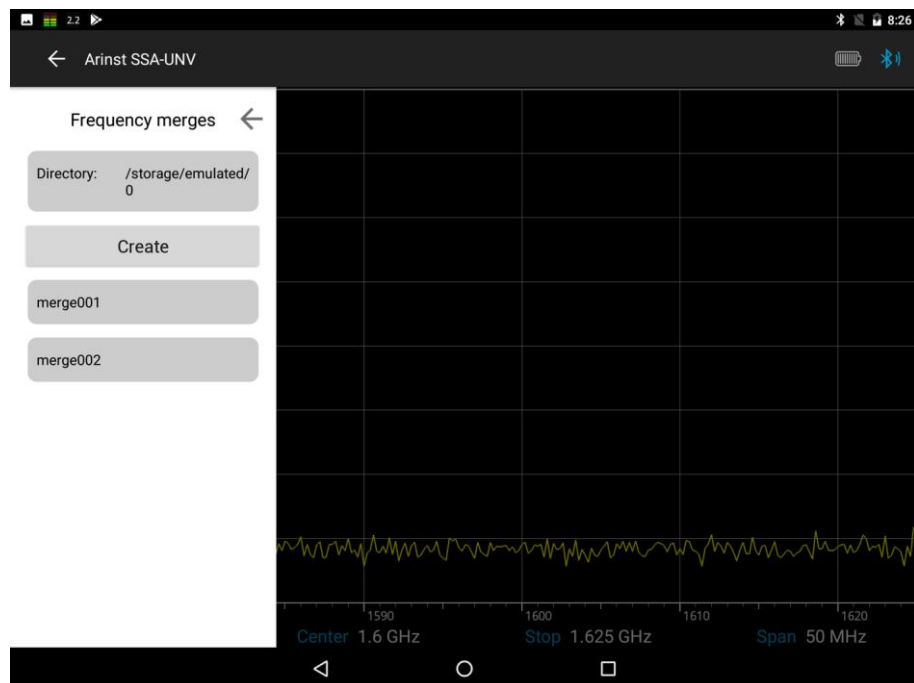

Figure 79 – Creating a new range list
9.5.2. Create a new list of simultaneously viewed frequency ranges by clicking the **Create** button, as shown in Figure 79.